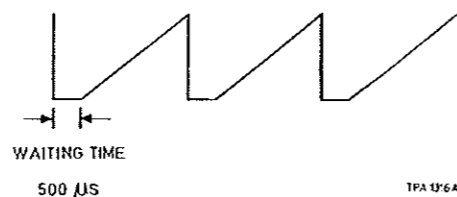

Fig. 4.2 Mains lock waiting time
(1) Set the oscilloscope to mains trigger with time base set at 1 ms/cm. Set the SWEEP FUNCTION switch to MAINS LOCK, and adjust the VARIABLE RATE control to give a waiting time (see Fig. 4.2) of 500 μ s.